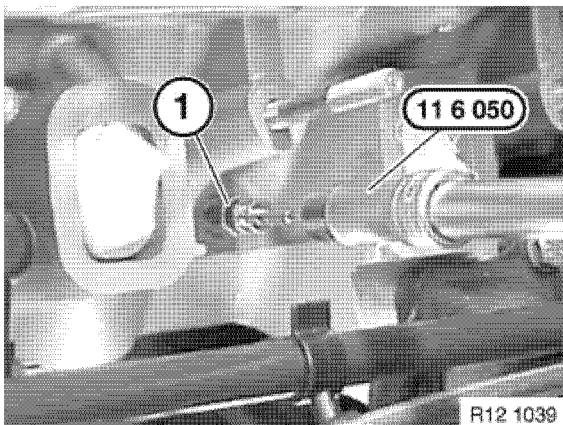

Figure 5-9
4. Use special tool OEM No. 11 6 050 to remove glow plug (1, **Figure 5-9**) from cylinder head.